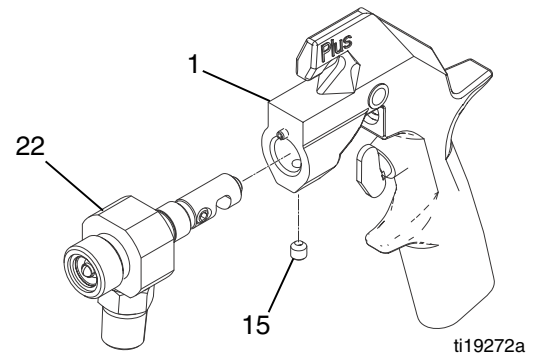

FIG. 16
- Push the fluid housing (22) onto the gun body (1) until fully seated. Tighten the setscrew (15) to 30-40 in-lb (3.4-4.5 N•m). Fill the setscrew cavity with petroleum jelly. See FIG. 16.